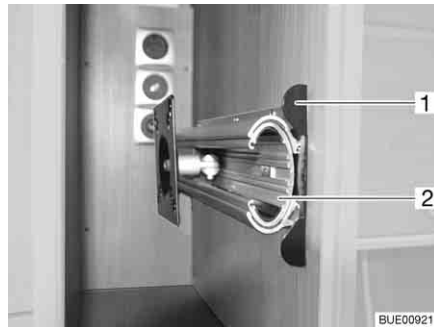

Fig. 61 Holder in the TV cabinet
- Push the unlocking bar (Fig. 61,1) in.
- Pull out the extension (Fig. 61,2) as far as possible.
- Push in the extension (Fig. 61,2) until the unlocking bar (Fig. 61,1) engages.